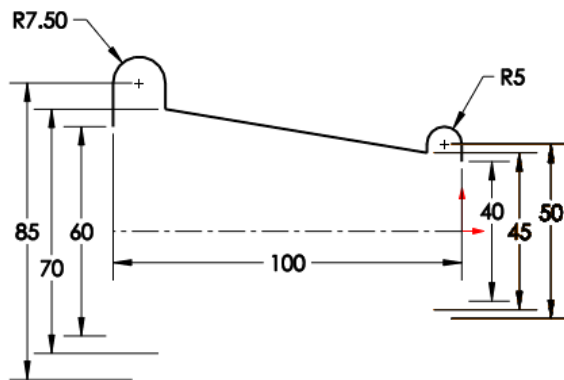

Figure 1-119 Sketch of the base surface
2. Invoke the sketching environment using the Front plane as the sketching plane and create the sketch of the base surface, as shown in Figure 1-119.